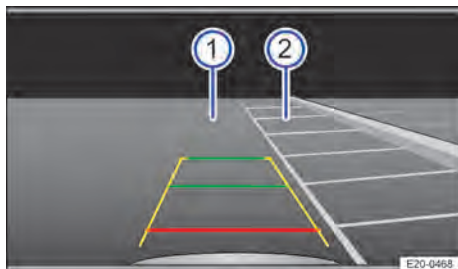

Fig. 130 Infotainment system: selecting a parking space.
4. Position the vehicle in front of the parking space → Fig. 130 ②.